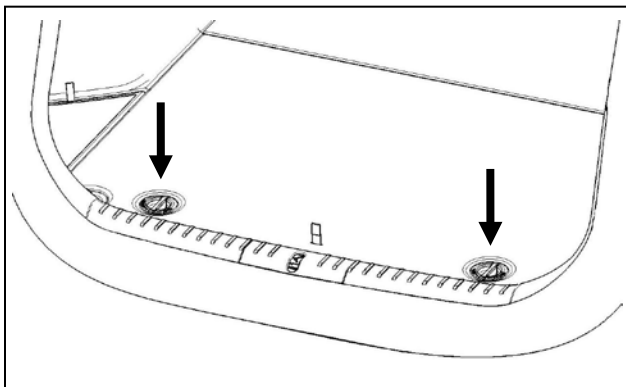

Fig. 1-5
- (e) Close floor panel and twist the turn locks to secure the panel in place. (See Fig. 1-5)